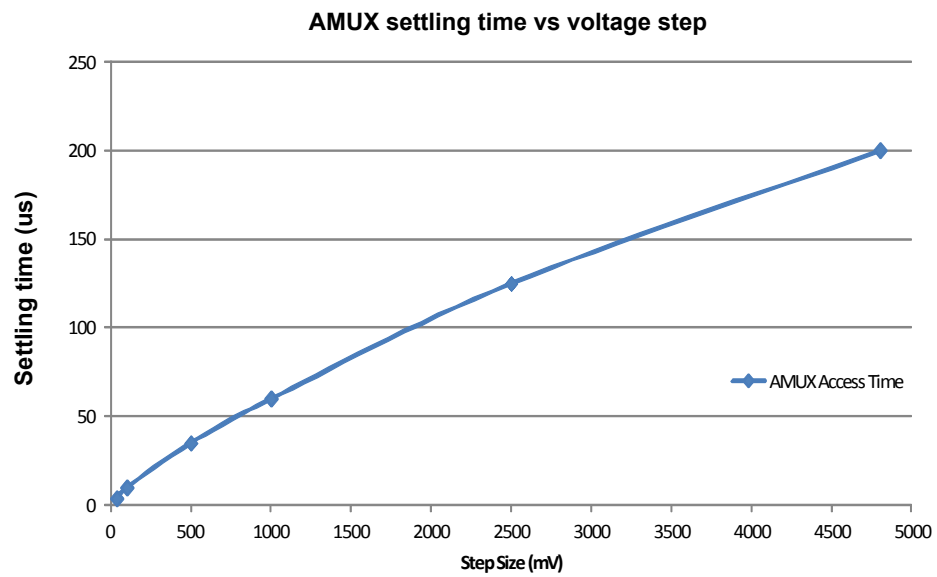

Figure 9. AMUX access time waveform
25. AMUX settling time to be within the 10 mV offset specification. $AMUX_{VALID}$ is dependant of the voltage step applied on the input SGx/SPx pin or the difference between the first and second channel selected as the multiplexed analog output. See Figure 9 for a typical AMUX access time VS voltage step waveform.